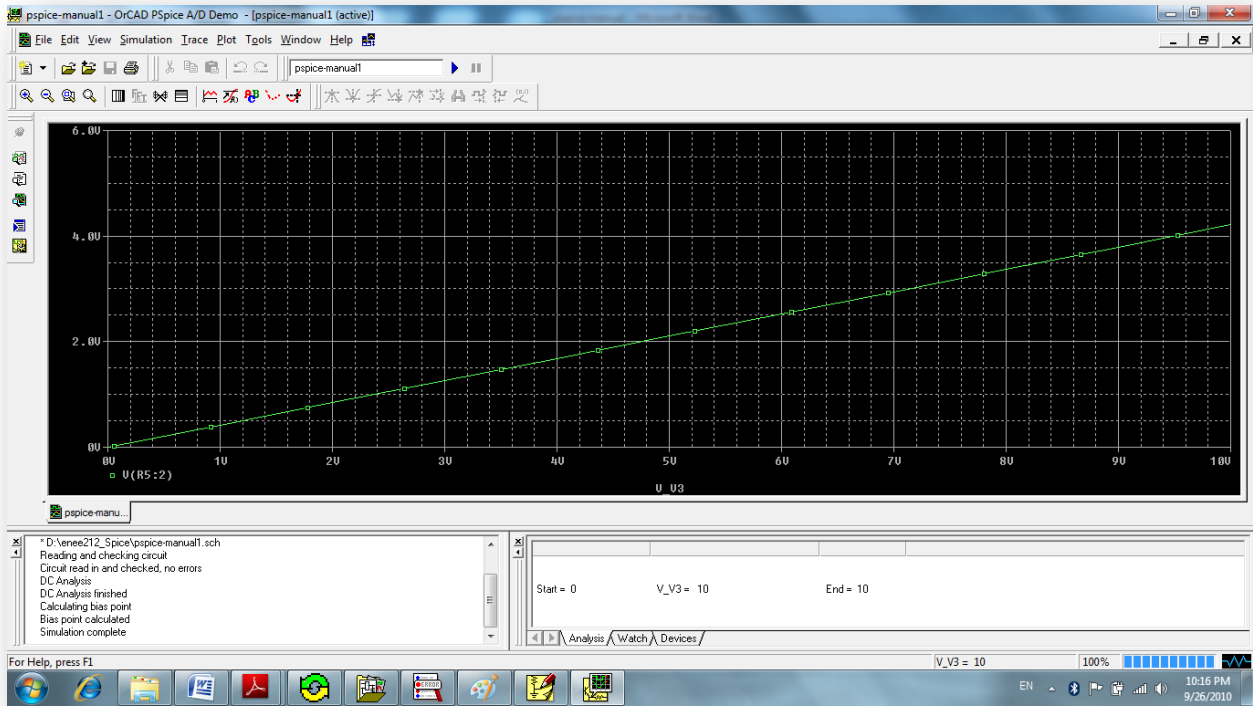

Fig.4.1.4: Simulation results Screen.
- 8- A black window appears plotted the voltage across R5 as the dc voltage source V3 changes from 0V to 10V. (As shown in Fig.4.1.4)
- 9- After the simulation window opened you can click on  to add a new trace on the same plot. A new window will be opened listing all the variables that can be plotted, choose for example V(VA) which plots VA.